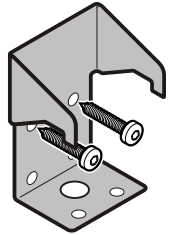

Figure 7
To ensure a secure mounting of the brackets use any possible mounting option as shown in Figures 7 - 10.
*To ensure a secure mounting of the brackets use any possible mounting option as shown in **Figures 7 - 10.***
Mounting with wall plugs at concrete walls **(Figure 7).**